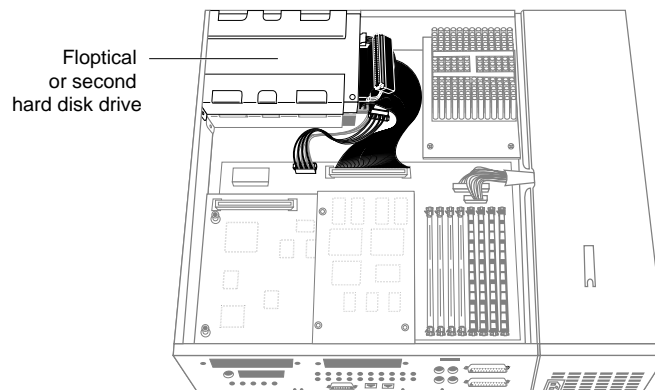

Figure 8-27 Locating the Floptical or Second Hard Disk Drive
5. Locate the floptical or second hard drive, as shown in Figure 8-27.